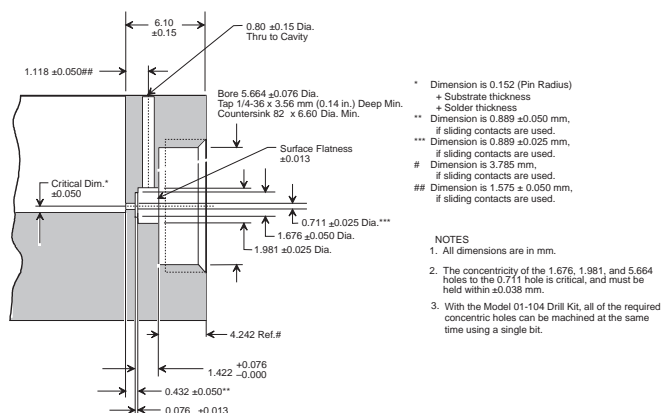

Figure 2. Machining Dimensions (mm)
- a. Drill the hole as shown in Figure 2 for the 6.10 mm wall thickness.